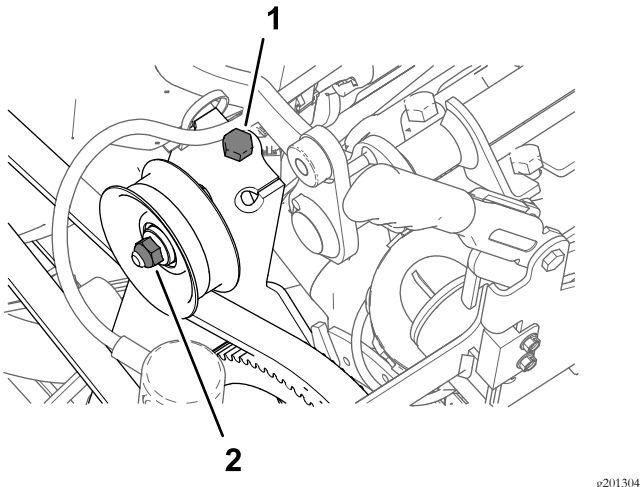

Figure 178
- Loosen the nut for the idler-pulley shaft (Figure 178).
- Rotate the belt-tension bolt to remove all tension from the sprayer-pump belt (Figure 178).